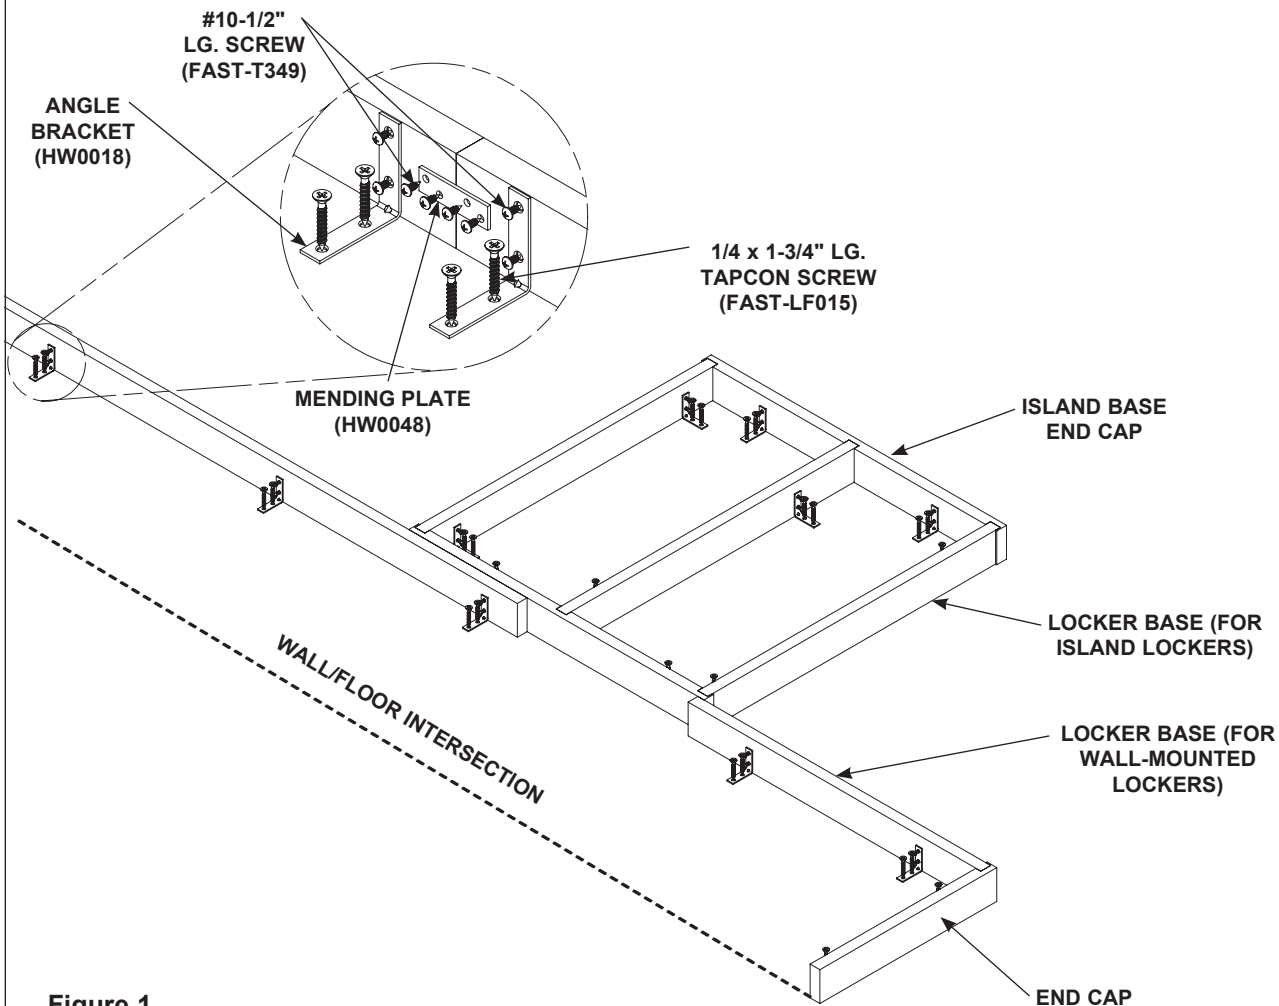

Figure 1
2. Position the base sections per submittal layout. The ends of the base sections fit into the slots in the end caps (see Figure 1). Square and plumb the sections and end caps using shims as required. If shims are used, place them under the mounting brackets perpendicular to the bracket.
3. For longer locker runs, the base sections may need to be connected together. Drill 1/16" pilot holes 1/2" deep for the #10 x 1/2" screws that fasten the angle bracket and mending plate to the base. Use the mending plate and #10 x 1/2" screws provided to connect pieces (see Figure 1).
4. Using the applicable mounting hardware supplied, anchor the base sections to the floor. Use a 3/16" masonry drill bit for 1/4" x 1-3/4" Tapcon screws (see inset, Figure 1).